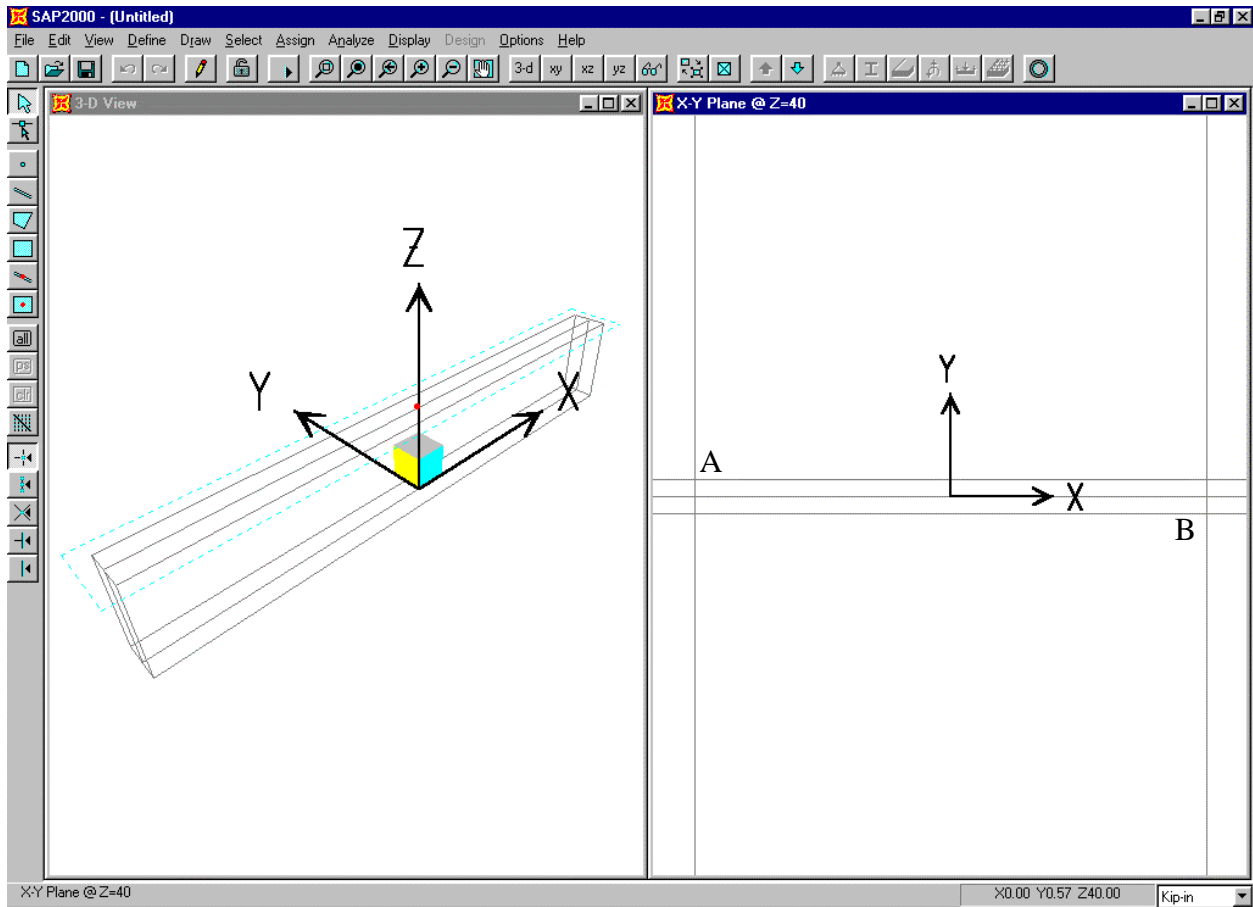

Figure S-1: Screen After Step 4
4. Click in the window titled X-Y Plane @ Z=40 to make sure it is active. The window is highlighted when it is active. The screen appears as shown in Figure S-1.
6. Click on the point labeled “A” and then the point labeled “B” in Figure S-1 to enter a shell element.